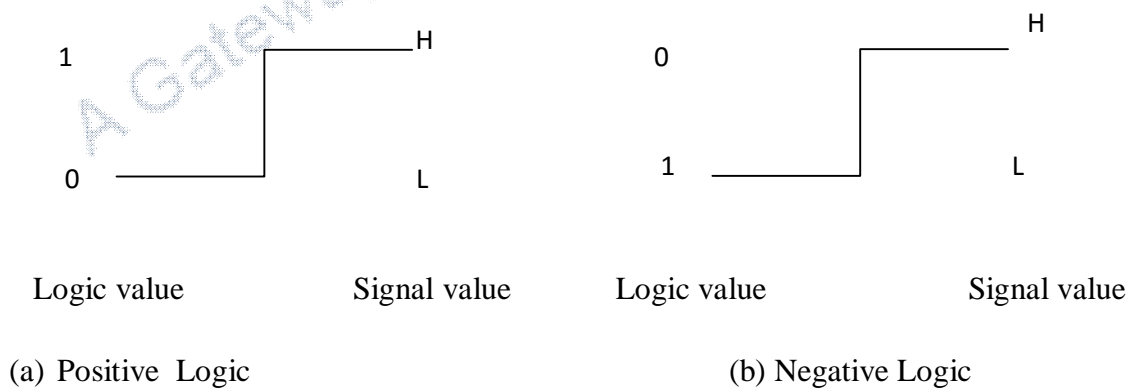

Figure 2 :Logic level assignments
Consider the two values of a binary signal as shown in Figure 2. One value must be higher than the other since the two values must be different in order to be distinct. The higher level is designated as H and the lower level as L.
1. Choosing the high level H to represent logic 1 defines positive logic (figure 2 (a))
2. Choosing the low level L to represent logic 1 defines negative logic (figure 2(b))